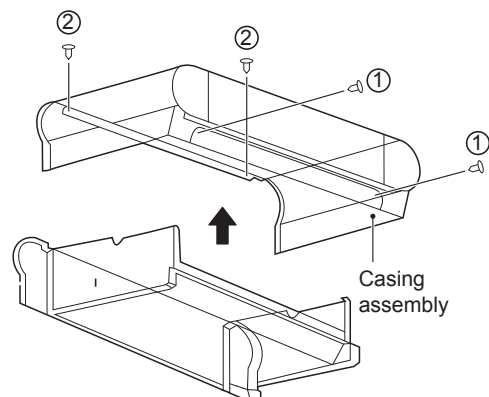

Figure 5-17 Removal of casing
As shown in Figure 5-17, remove screws ①\*2 and ②\*2 and then the casing.